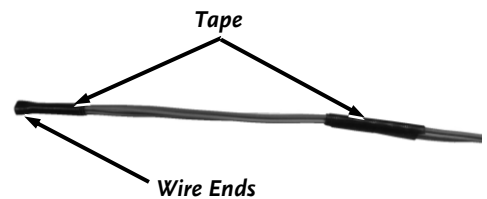

Figure 11
2. Unwrap the Wiring Harness and locate the two colored wire ends that do not have connectors on them (Figure 11). Note: The white wire will not be used in this step.